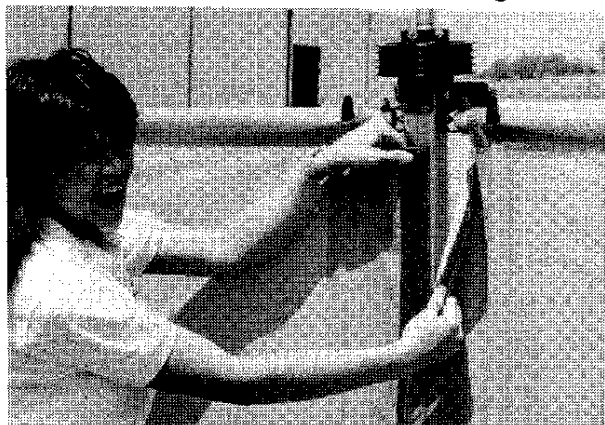

Figure 2.10
- 15.** Connect velcro on right and left wing covers. Secure entire length of the root tube. **Figure 2.10**